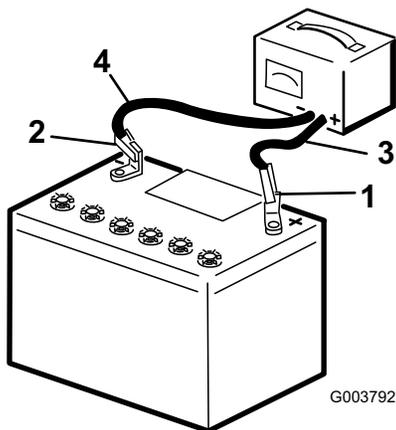

Figure 32
- Charge the battery for 10 to 15 minutes at 25 to 30 amps or 30 minutes at 4 to 6 amps (Figure 32). Do not overcharge the battery.
disconnect the charger leads from the battery posts (Figure 32).